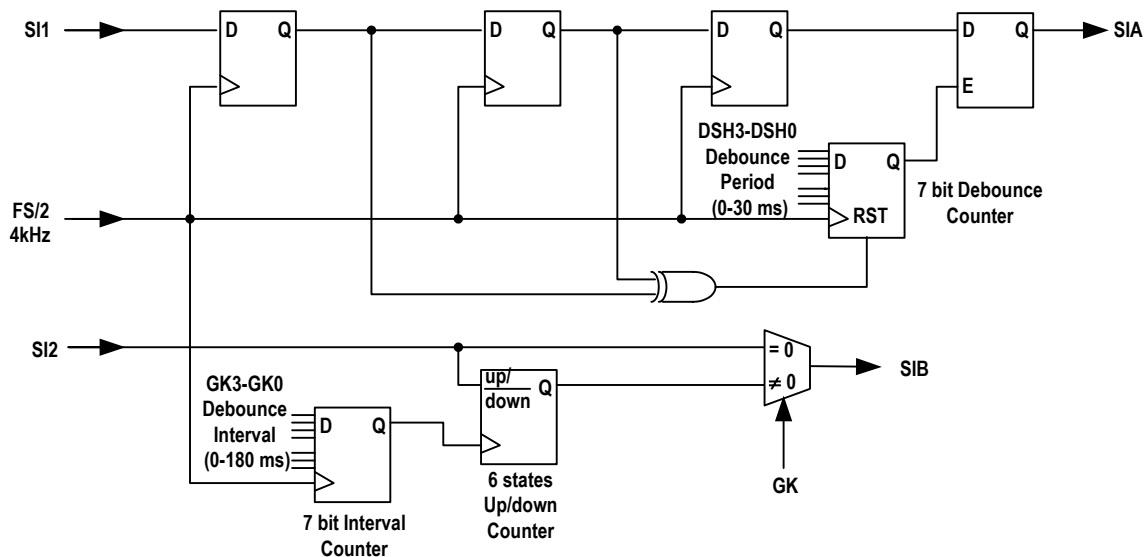

Figure 10 Debounce Filters
The IDT82V1068 provides two debounce filter circuits per channel: Debounced Switch Hook (DSH) Filter for SI1 and Ground Key (GK) Filter for SI2 (see Figure 10). They are used to buffer the input signals on SI1 and SI2 pins before changing the state of the SLIC Debounced Input SI1/SI2 Registers (Global Command 9 and 10), or, before changing the state of the GCI upstream C/I octet. The Frame Sync (FS) signal is necessary for both the DSH and the GK filters.